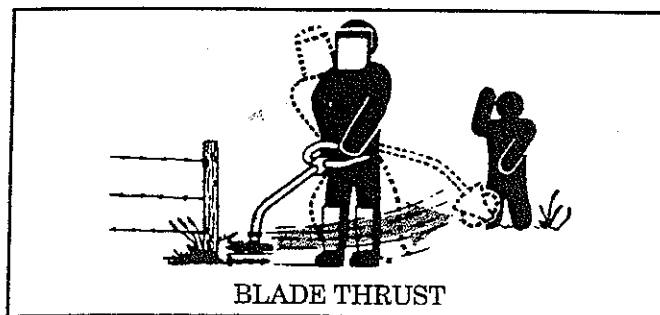

Figure 23
- **WHAT CAUSES BLADE THRUST** *Blade Thrust* can occur when the spinning blade contacts an object that it cannot cut. This contact causes the blade to stop for an instant and then suddenly move or "thrust" away from the object that was hit. The "thrusting" reaction can be violent enough to cause the operator to be propelled in any direction and lose control of the tool. The uncontrolled tool can cause serious injury if the blade contacts the operator or others. Figure 23.